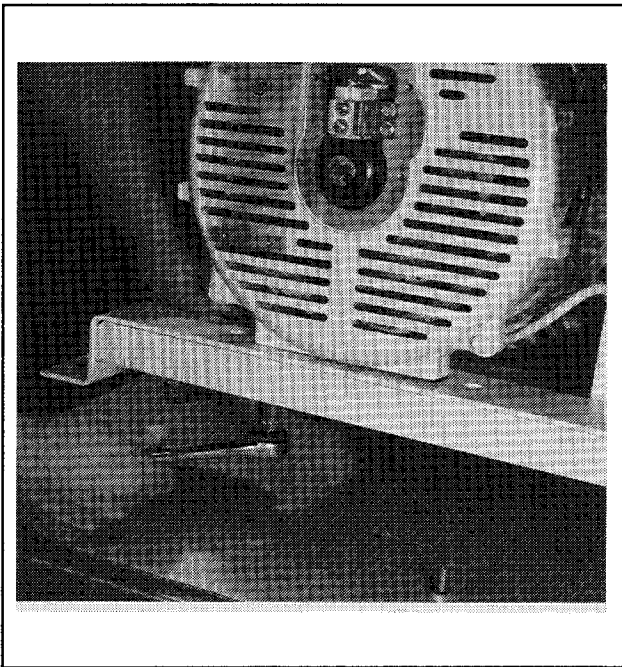

**Figure 10-17. Attaching Lifting Eye**
3. Position adapter on engine. Attach lifting eye to adapter/engine with two mounting bolts and lock washers. See Figure 10-17.